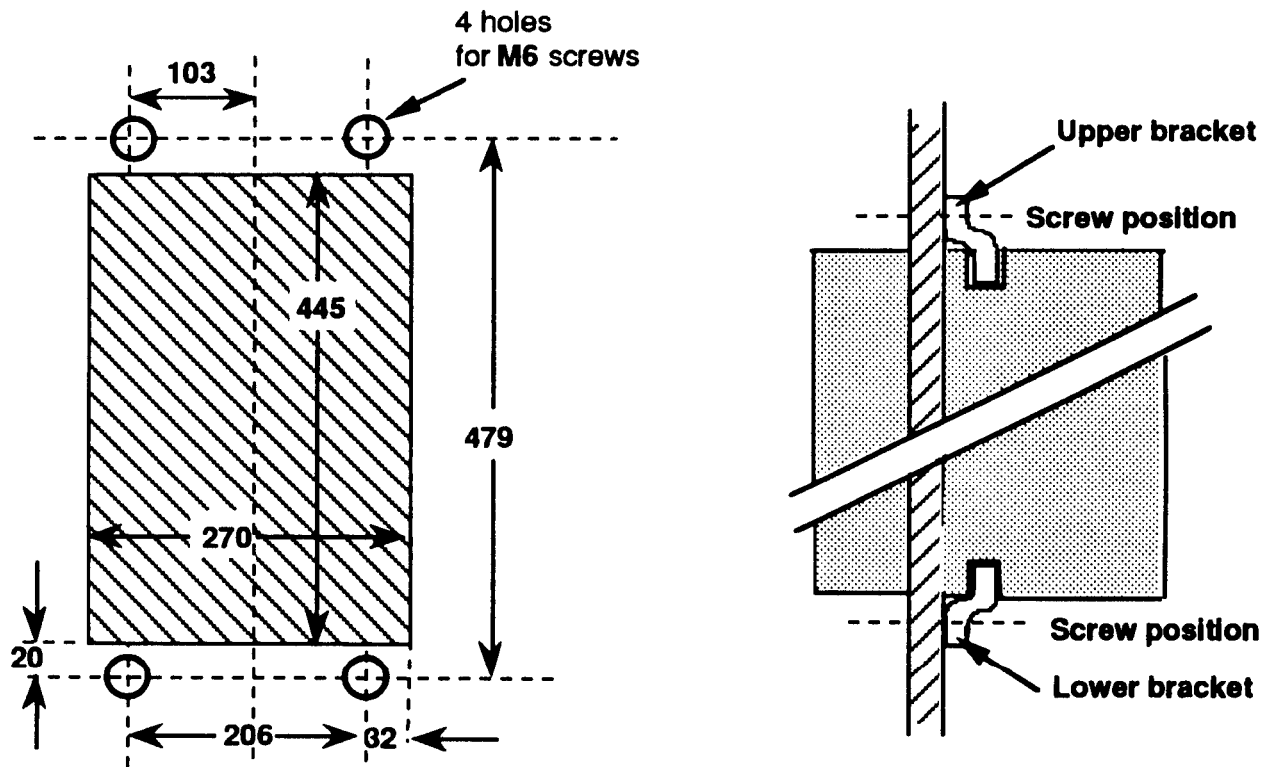

Figure 2.7. Drilling, cut-out and bracket position details
- Insert the thyristor unit into the opening in the panel (see fig.2.7).